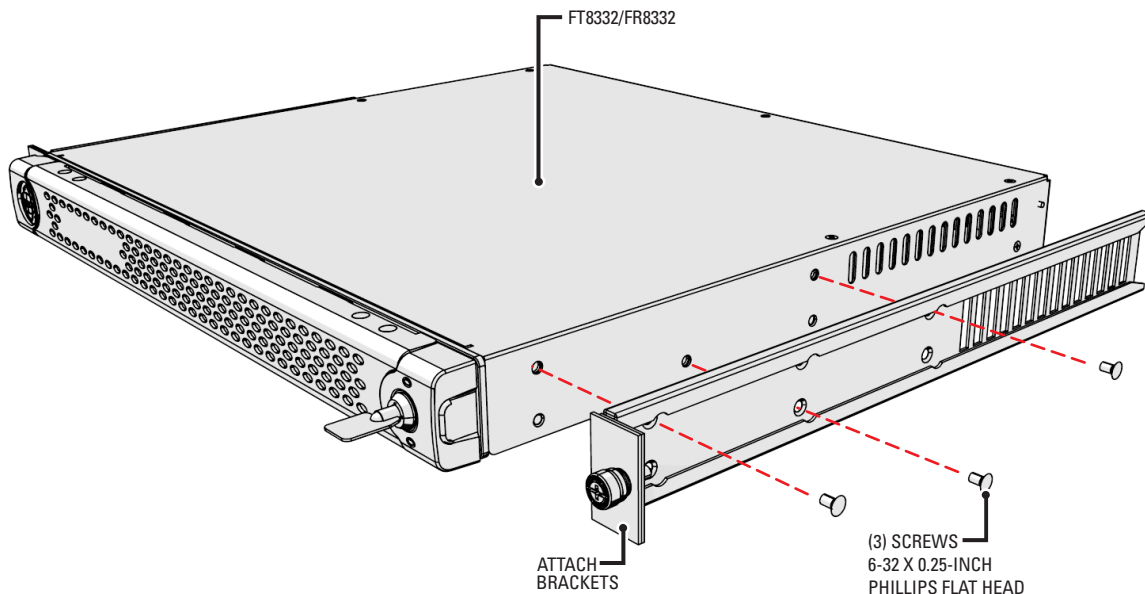

Figure 8. Attaching Chassis Mounting Brackets
1. Attach one chassis mounting bracket to each side of the unit using three 6-32 x 0.25-inch Phillips flat head screws for each bracket (refer to Figure 8).